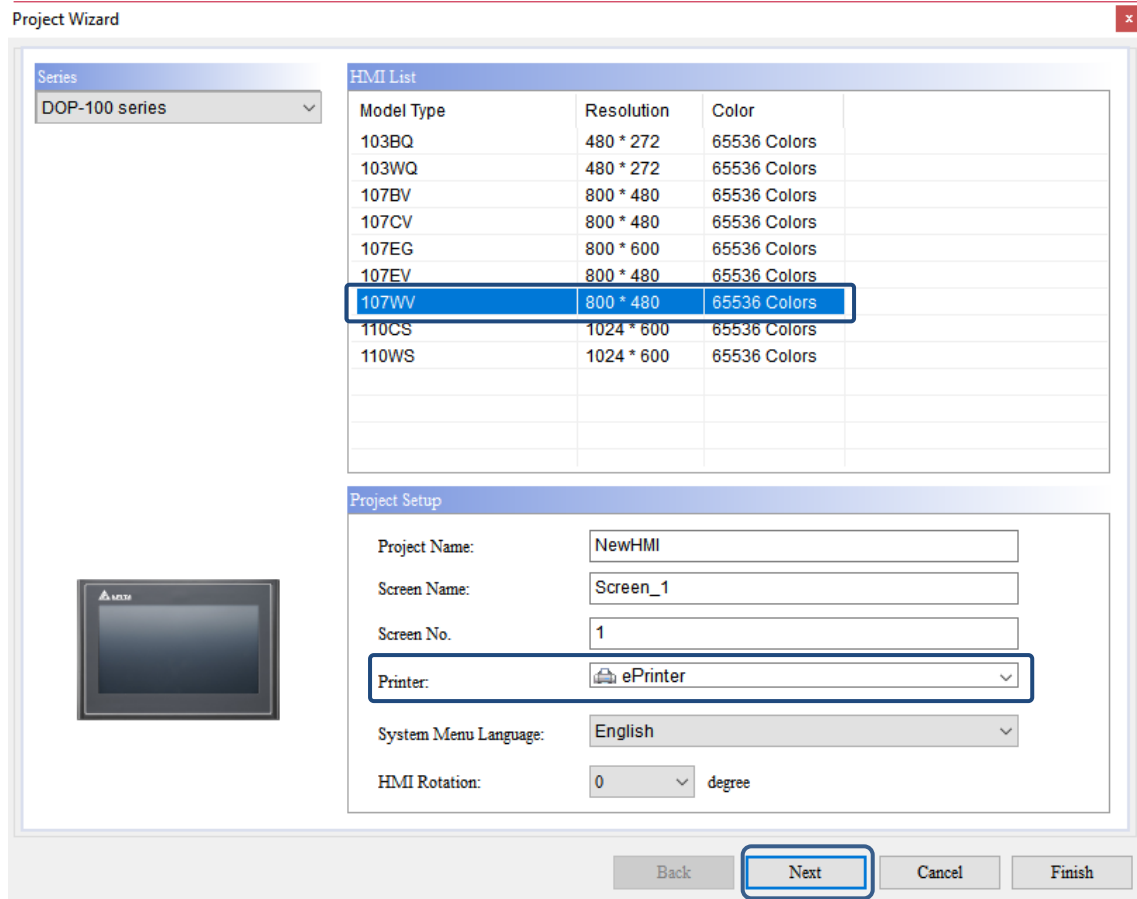

Figure 26.2.2.1 HMI screen setting (1)
1. Create a new project. Select the 107WV model and set ePrinter as the Printer (as shown in Figure 26.2.2.1). Then click on **Next**.